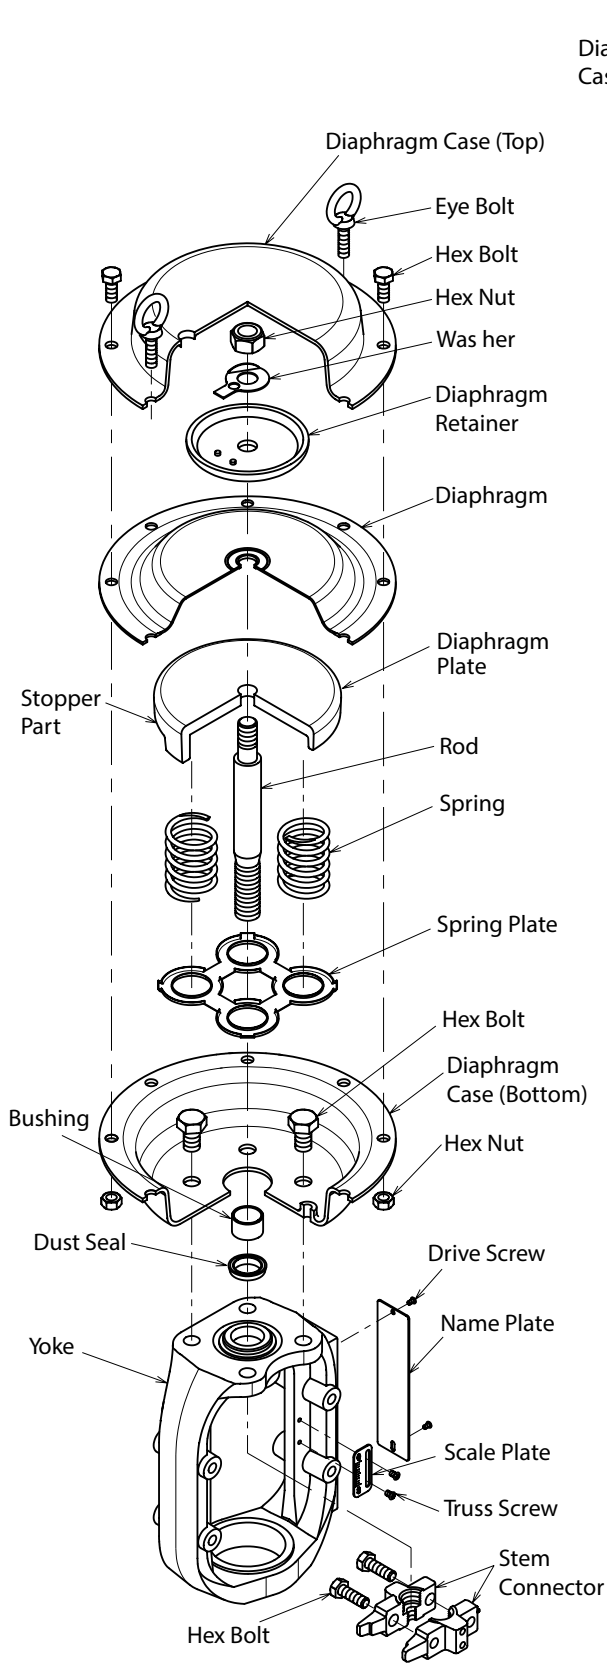
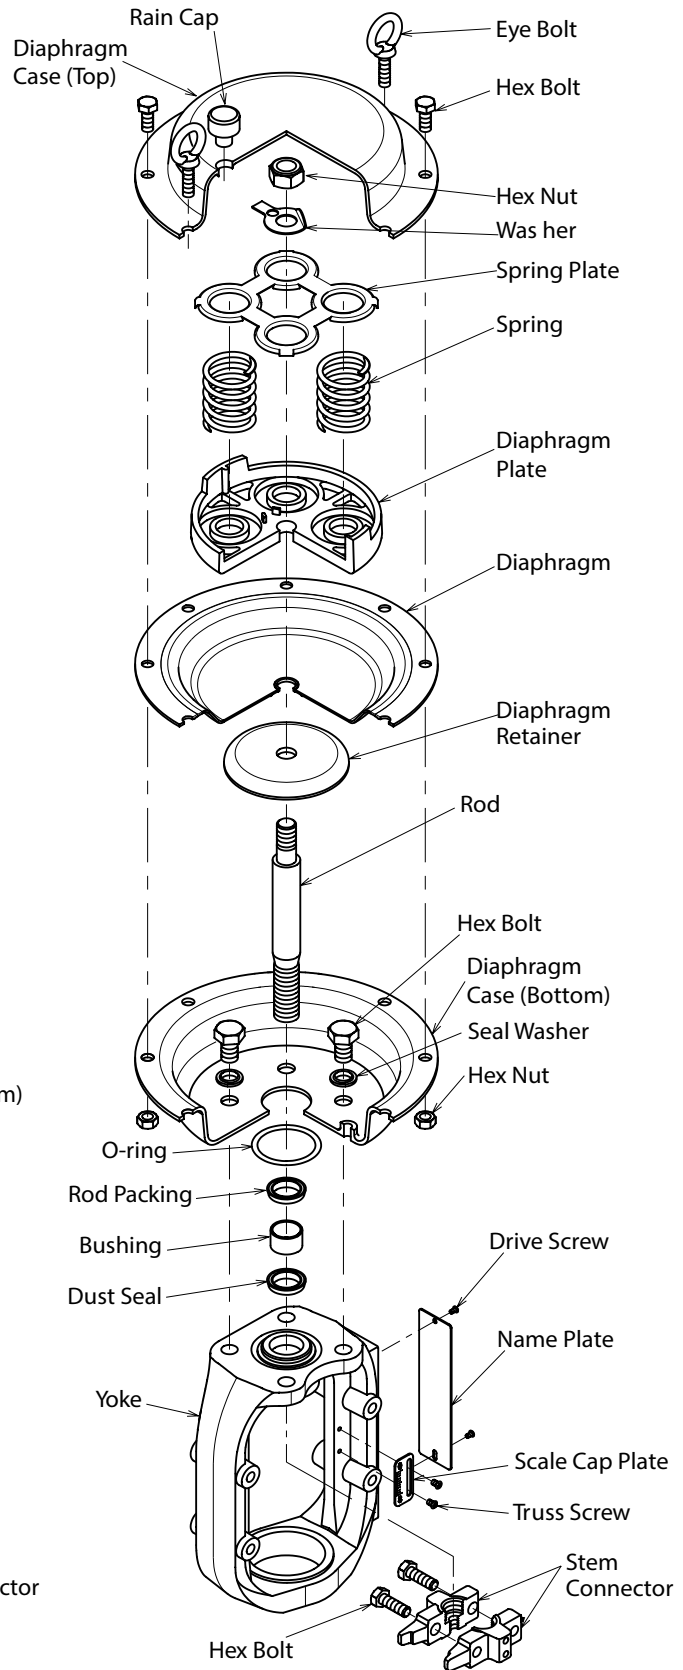

Fig. 4-5 Direct Action model PSAID
Fig. 4-6 Reverse Action model PSAIR
A. Direct action model (see Fig. 4-5)
- (1) Disconnect the air piping and detach the accessories from the actuator.
- (2) Remove the stem connector.
- (3) Remove the clamping bolts (except the pair of eyebolts) from the diaphragm case.
- (4) Alternately and evenly loosen the pair of eyebolts. The initial setting of the springs is achieved using these eyebolts.
- (5) Removing the diaphragm case. Pull the actuator rod upward and out together with the diaphragm.
- (6) Take out the springs.
B. Reverse action model (see Fig. 4-6)
- (1) Disconnect the air piping and detach the accessories from the actuator
- (4) Alternately and evenly loosen the pair of eyebolts. The initial setting of the springs is achieved using the eyebolts.
- (5) Remove the diaphragm case. Take out the springs.
- (6) Pull the actuator rod upward and out together with the diaphragm.
Install packing for the rod and dustseal in the correct direction. Refer to Fig. 4-5.
Refer to Fig. 4-6.